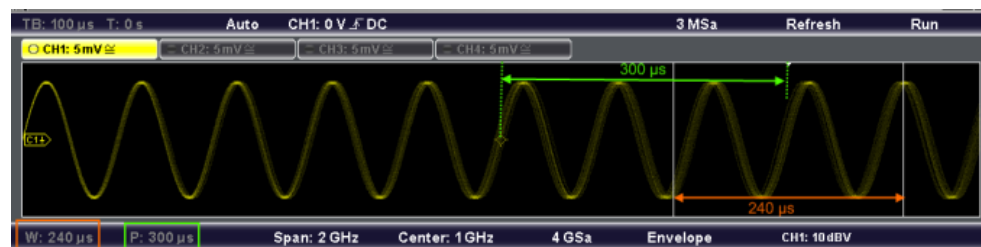

Fig. 7-1: Width and position of the time base extract for FFT calculation
The display can be restricted to the results for a certain time base extract and to a specified frequency range. The time range is indicated by white lines in the Y(t)-diagram (see also figure 7-1).
2. Define the time base extract for which the FFT is to be calculated and displayed. The extract is defined by its width and position (see figure 7-1).
1. Define the time base extract for which the FFT is to be calculated and displayed. The extract is defined by its width and position (see figure 7-1).